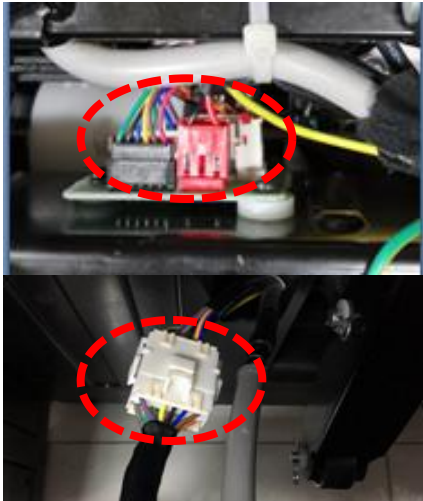

Figure 1
- A. First, check whether the wiring harness of the moving board has poor contact or the plug-in falls off (Figure 1);